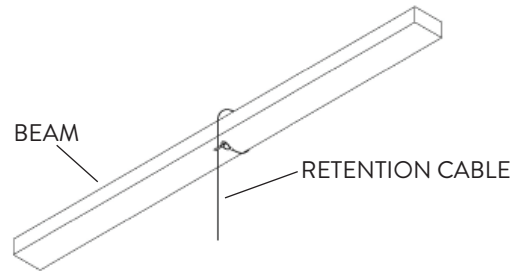

FIG. 23
- 3 Attach the other side of the Safety Retention Cable to the mounting structure, i.e. Beam (Fig. 23).